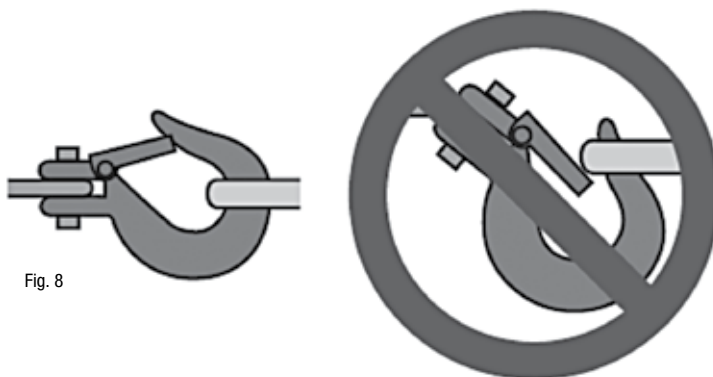

Fig. 8
- Attachment point must be centered in the loop of hook and the safety clasp must be fully closed (see figure 8).